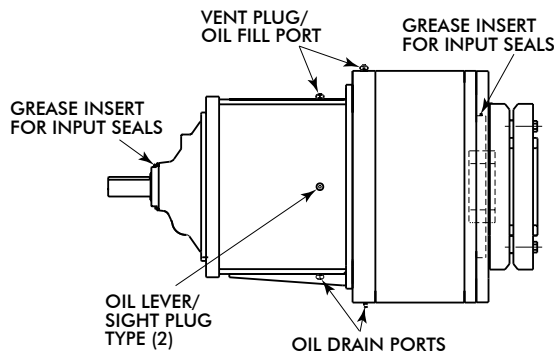

FIGURE 5.1
3. Remove oil fill plug (vent plug) and one of the two oil level plugs; reference Figure 5.1.
2. Remove oil fill plug (vent plug) for ventilation; reference Figure 5.1.
1. Clean grease inserts, reference Figure 5.1 for location.